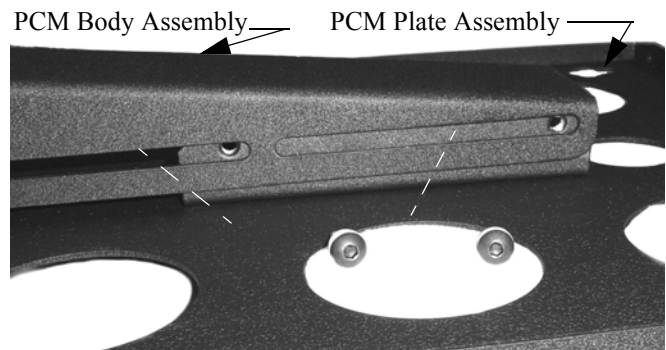

Figure 2. Assemble Body to Plate
3. Using four 5/16-18 button head cap screws and four washers, secure the PCM body to the PCM plate assembly (see Figure 2).